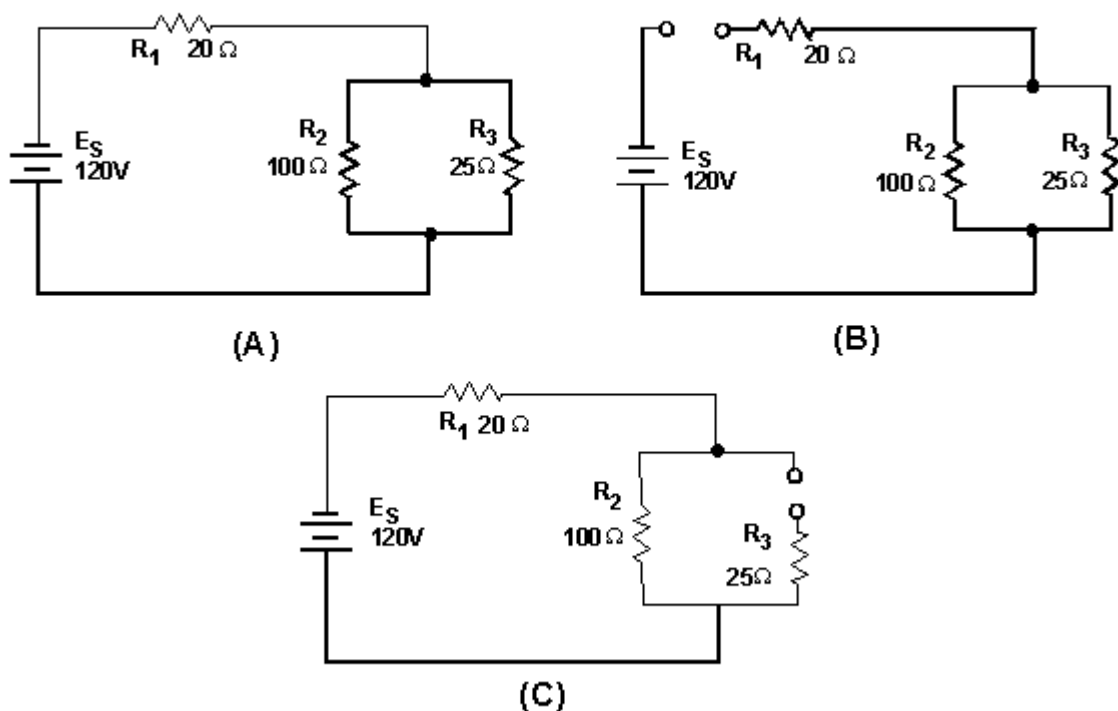

Figure 3-61.—Series-parallel circuit with opens.
To clarify these points, figure 3-61 illustrates a series parallel circuit. First the effect of an open in the series portion of this circuit will be examined. Figure 3-61(A) shows the normal circuit, $R_T = 40$ ohms and $I_T = 3$ amps. In figure 3-61(B) an open is shown in the series portion of the circuit, there is no complete path for current and the resistance of the circuit is considered to be infinite.
In figure 3-61(C) an open is shown in the parallel branch of R_3 . There is no path for current through R_3 . In the circuit, current flows through R_1 and R_2 only. Since there is only one path for current flow, R_1 and R_2 are effectively in series.